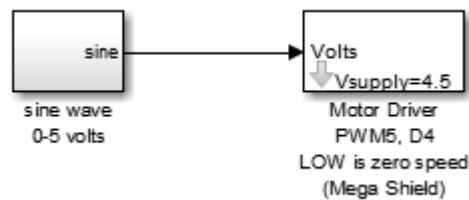

Figure 6: Motor driver block to control magnitude and direction
- Use this subsystem block in Figure 6 to generate a sinusoidal motor response: